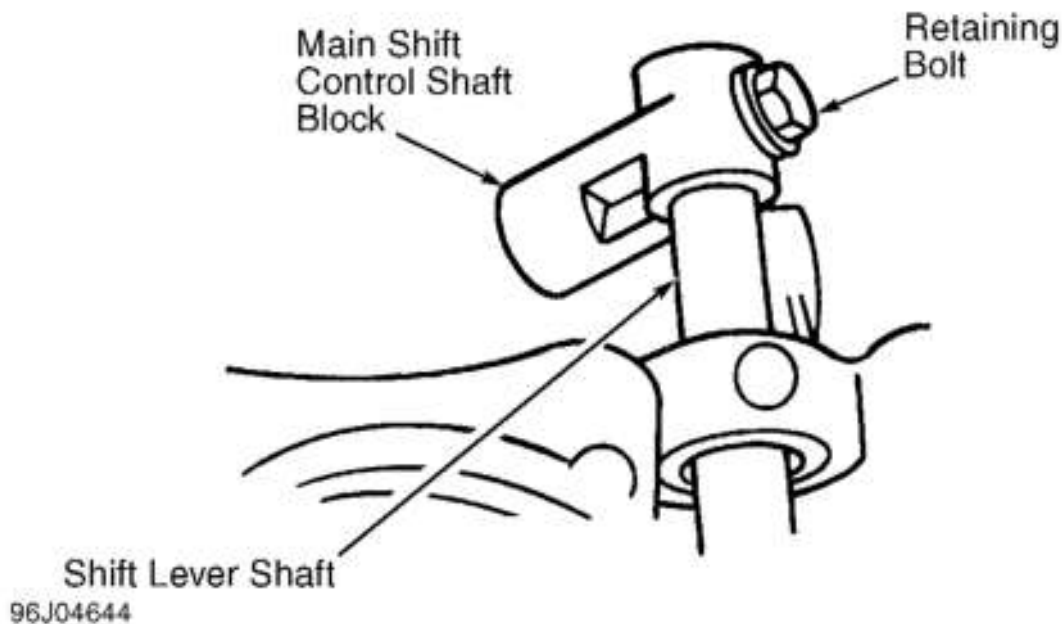

Fig. 11: Installing Main Shift Control Shaft Assembly
1. If removed, install inner and outer shift shaft bushings into case. Using appropriate remover/replacer, install shift lever shaft oil seal. Install shift lever shaft and main shift control shaft block. See **Fig. 11**. Install retaining bolt and tighten to specification. See **TORQUE SPECIFICATIONS**.